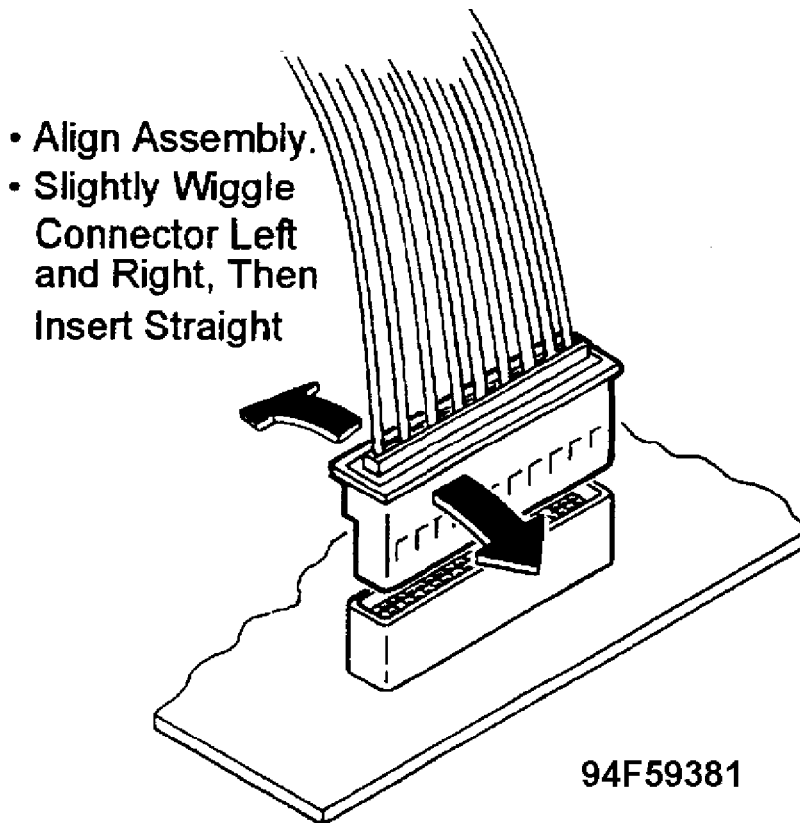
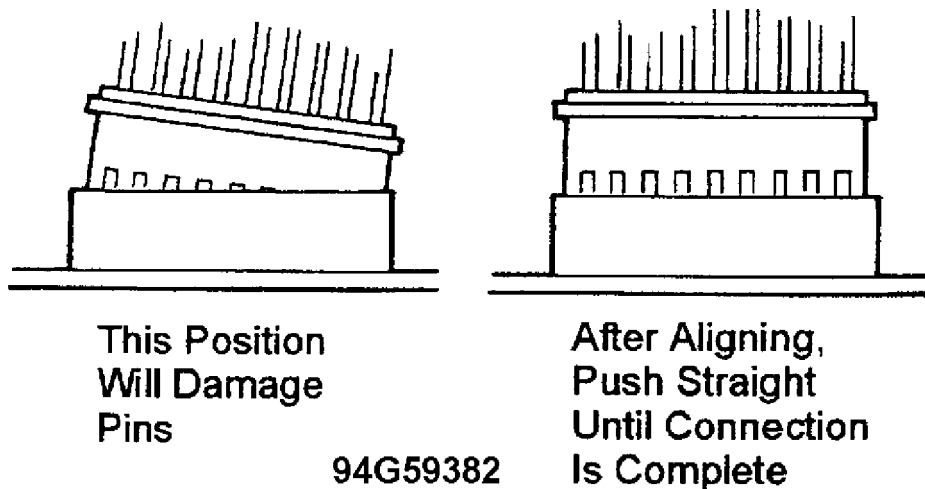

Fig. 2: Correct Installation of Male Connectors
Fig. 3: Installation of Male Connectors
- \* Slightly wiggle the connector right and left then slowly insert straight into the assembly. Refer to Fig. 2 and Fig. 3.